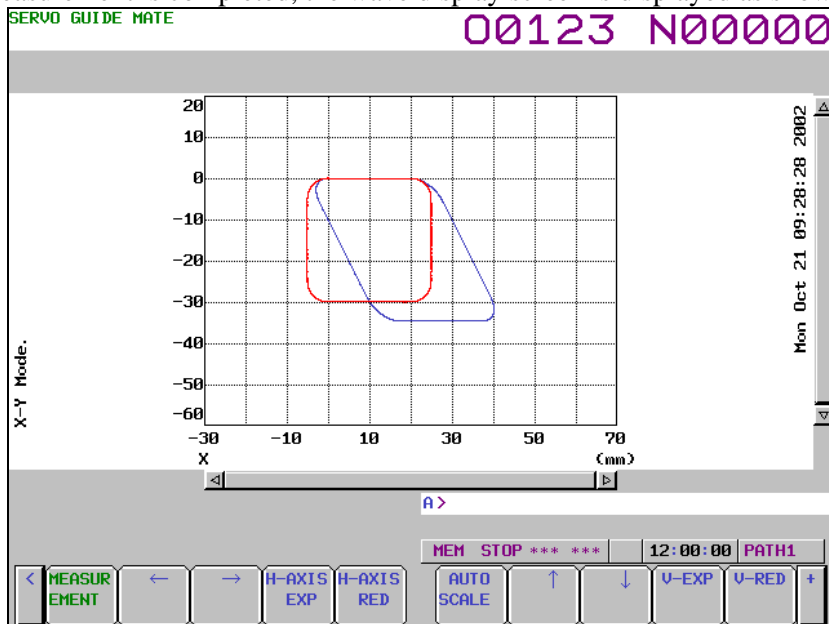

Fig. 1.9.1.2 (f)
- 29 When the measurement is completed, the wave display screen is displayed as shown Fig. 1.9.1.2 (f).